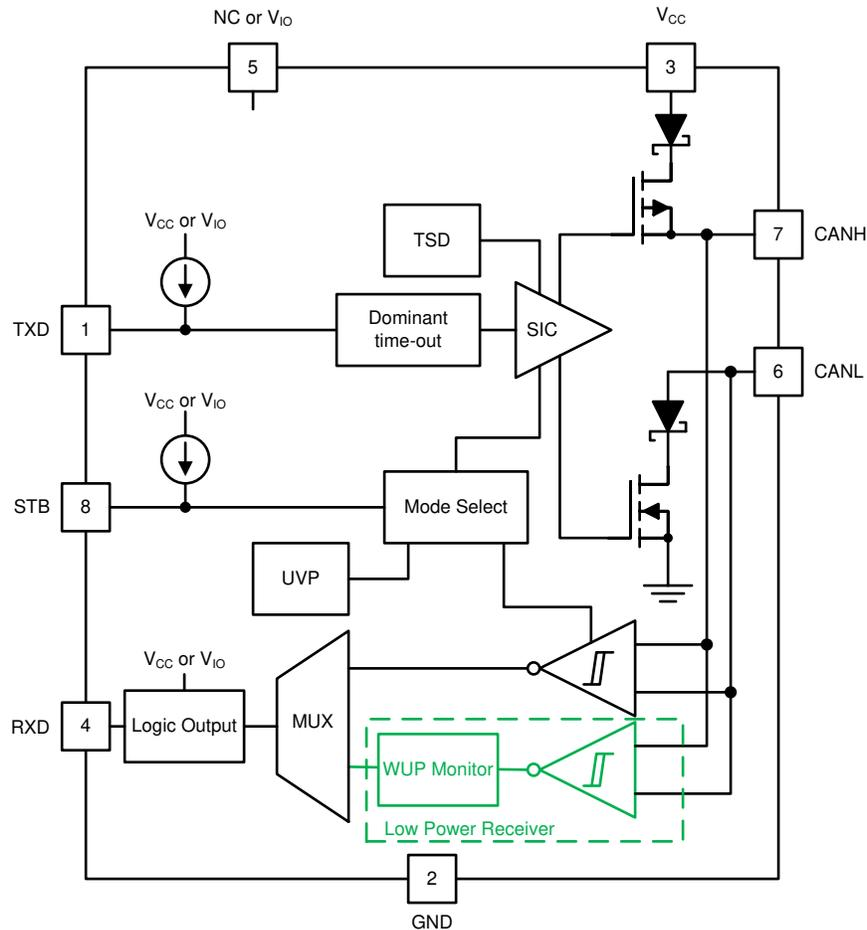

Figure 1-1. TCAN1462-Q1 and TCAN1462V-Q1 Functional Block Diagram
Figure 1-1 shows the device functional block diagram for reference. TCAN1462V-Q1 has the V_{IO} input at pin 5, while TCAN1462-Q1 has a no connect (NC) at pin 5.